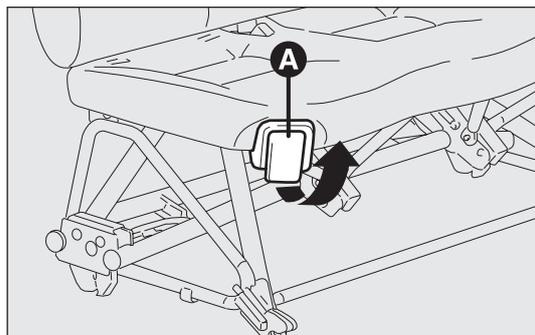
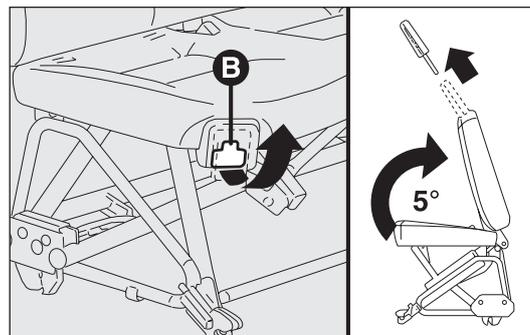

fig. 34
fig. 35
Lift lever A-fig. 34 and tilt the backrest forwards.
- raise the lever B-fig. 35 (located beneath the lever A-fig. 34) with your right hand;